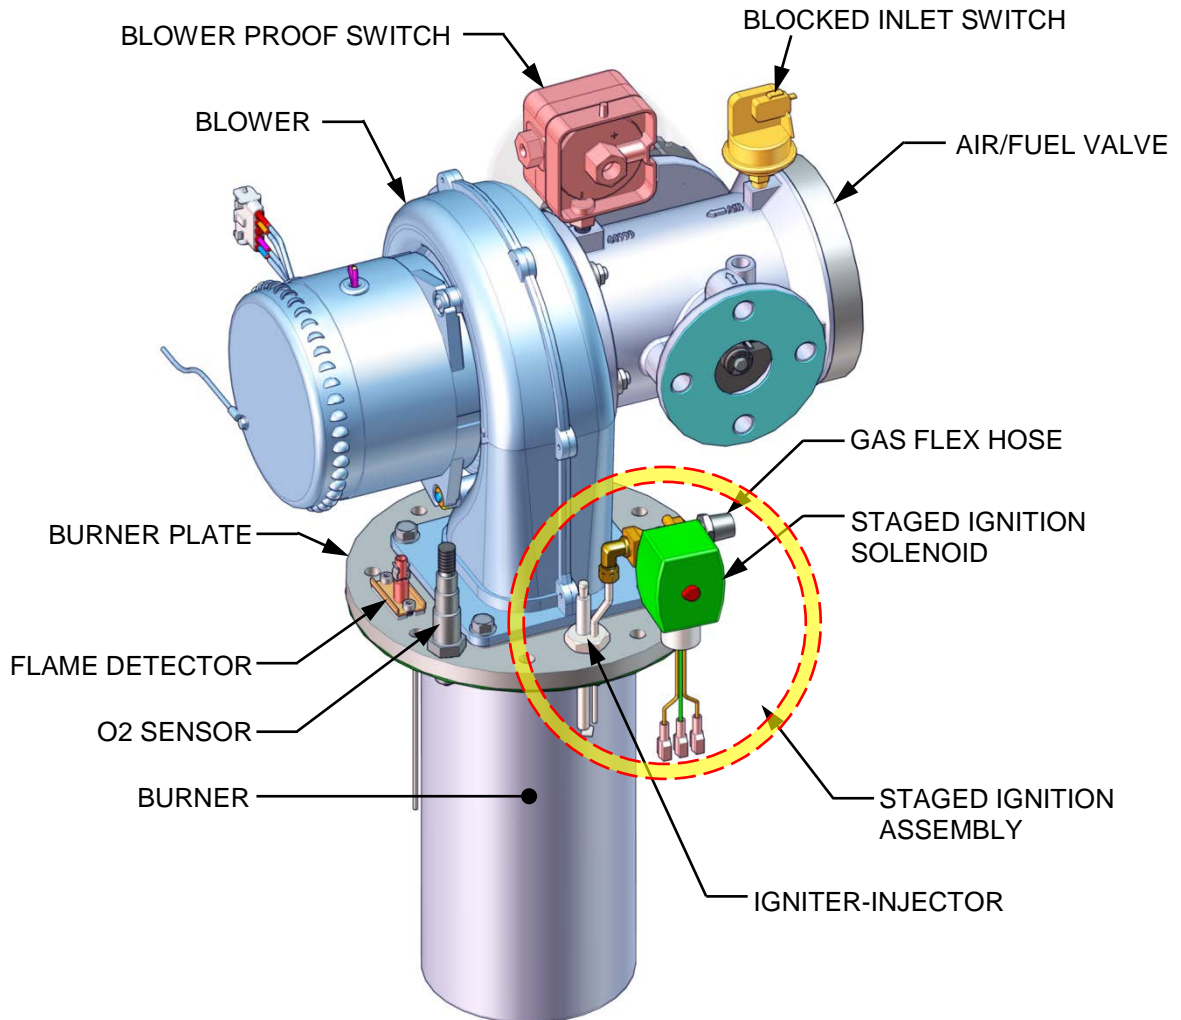
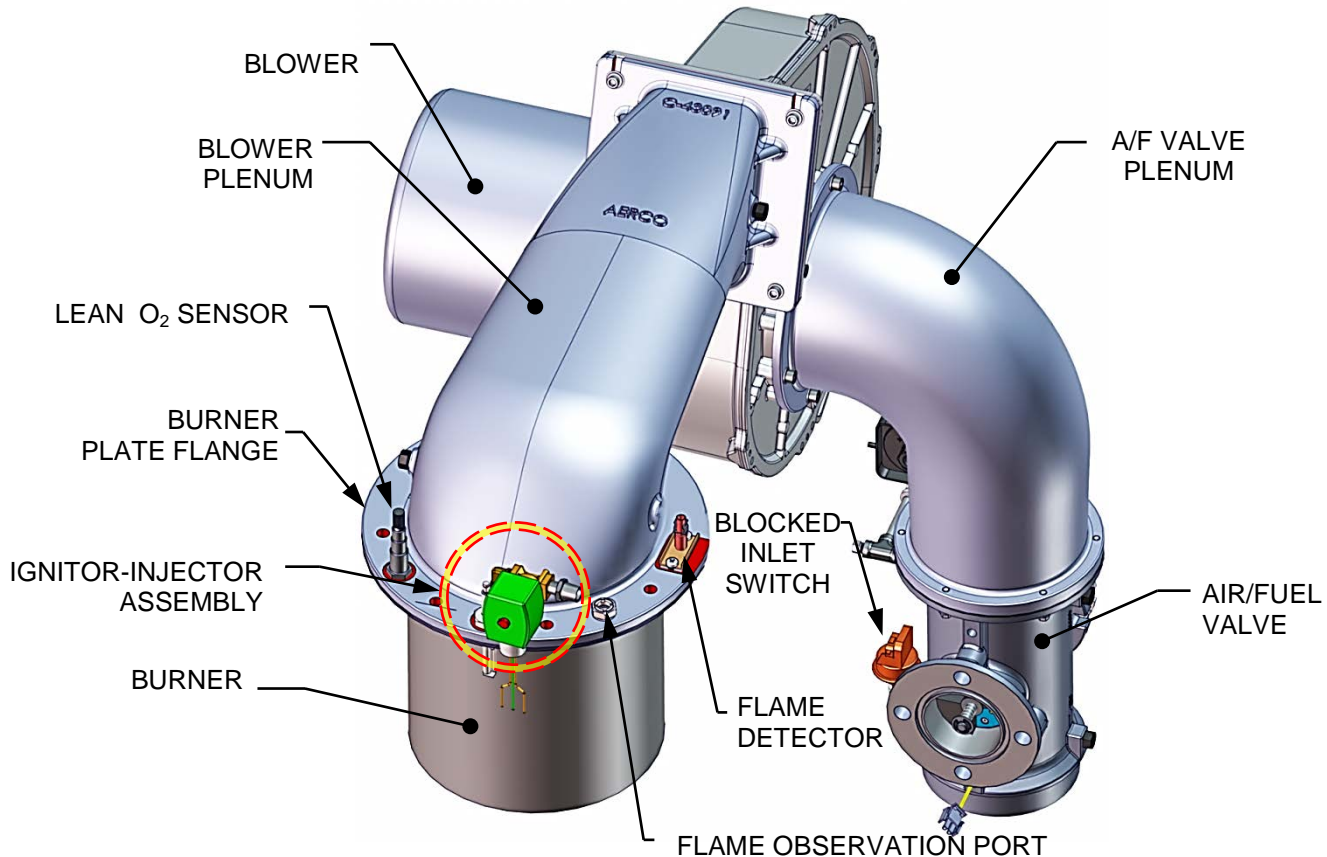
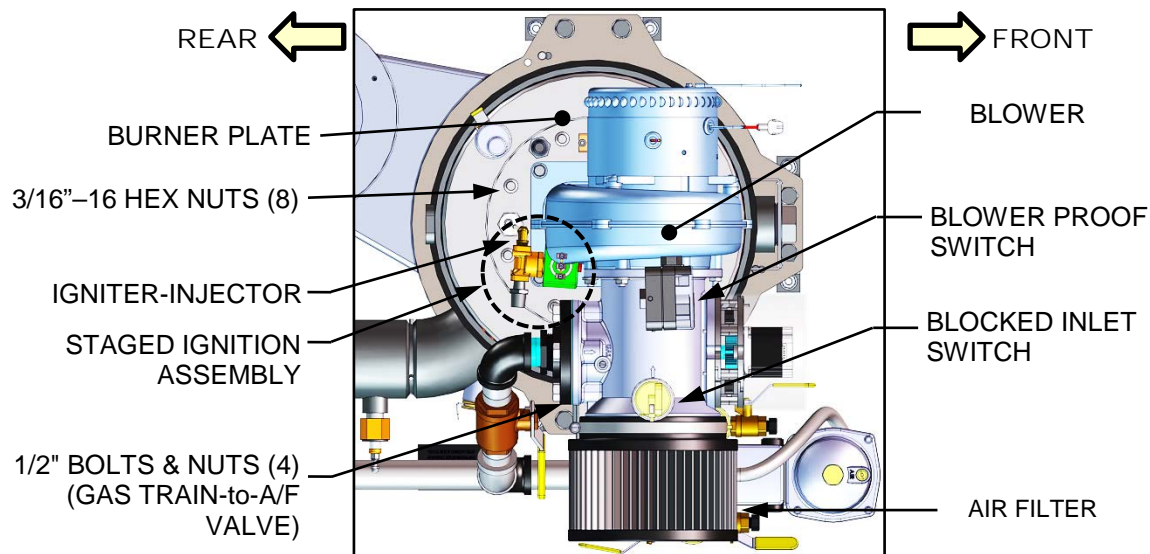
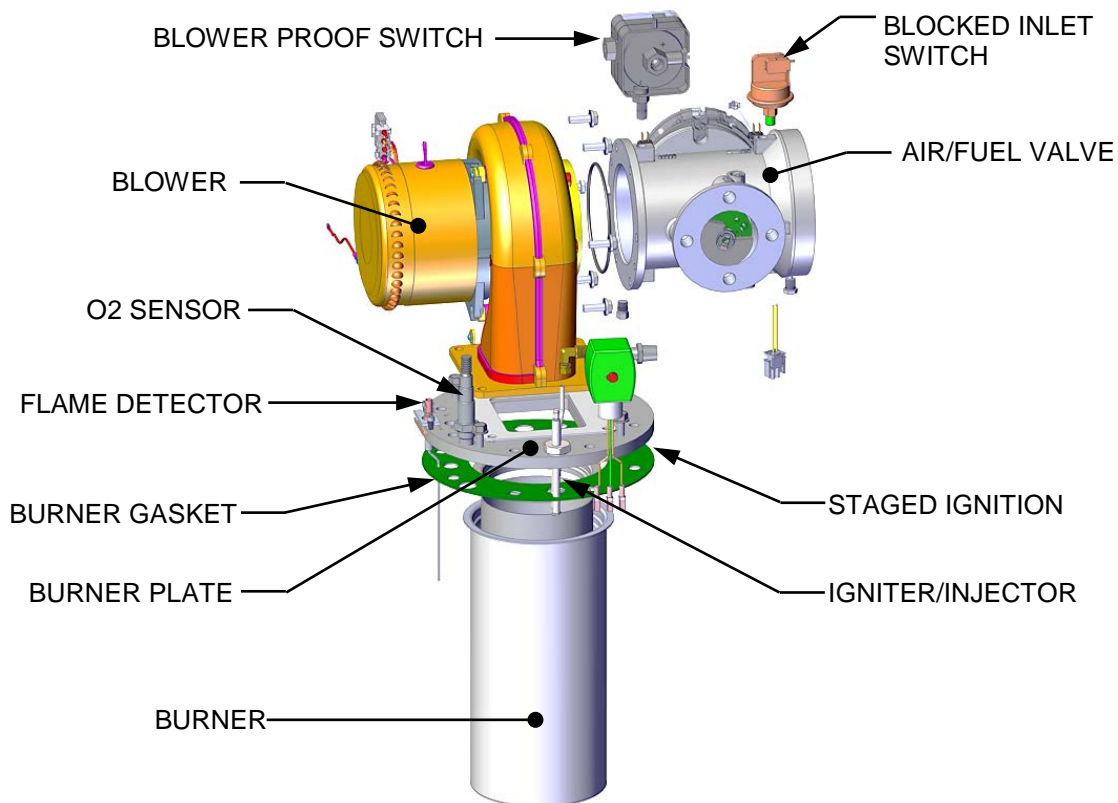

Figure 5-1a: BMK 750/1000 Burner Assembly (Removed from Boiler)
Figure 5-1c: BMK 2500/3000 Burner Assembly (Removed from Boiler)
Figure 5-4a: BMK 750/1000 Burner Assembly Mounting Details (Overhead View)
Figure 5-4b: BMK 750/1000 Burner Assembly (Exploded View)
The igniter-injector (Kit P/N **58023**) is located on the burner plate at the top of the boiler. In addition to providing the ignition spark required to light the burner, the igniter-injector also contains a gas injector tube which connects to the staged ignition assembly. Figure 5-1a through Figure 5-1c shows the complete burner assembly removed from the boiler and indicates the location of the igniter-injector flame detector and other related components.
2. Remove the top shroud from the unit by grasping the top handle and lifting straight up. This will disengage the shroud from the four (4) pins in the side panels.
3. Disconnect the cable from the igniter-injector (see Figure 5-1a – Figure 5.1c, above).
The flame detector (kit P/N **24356-1**) is located on the burner plate at the top of the unit (see Figures 5-1a through 5-1c and 5-2a through 5-2c). The flame detector may be hot. Allow the unit to cool sufficiently before removing the flame detector. Inspect or replace the flame detector as follows:
The Lean Oxygen Sensor (P/N **61026**) is located on the burner plate at the top of the unit (see Figures 5-1a through 5-1c and 5-2a through 5-2c). The sensor may be hot. Allow the unit to cool sufficiently before removing or replacing the O₂ sensor.
3. Disconnect the lead wire from the flame detector installed on the burner plate. See Figure 5-4b.
4. Remove the two (2) screws securing the flame detector to the plate. The flame detector is secured to the burner plate with one (1) #10-32 screw and one (1) #8-32 screw.
7. Using a 7/16" open-end wrench, disconnect the compression nut securing the gas injector tube of the igniter-injector to the elbow of the staged ignition assembly (see Figure 5-1a). Disconnect the staged ignition assembly from the igniter-injector.
10. Disconnect the wire leads connected to the Blower Proof switch and Blocked Inlet switch (Figure 5-4a and Figure 5-4b).
11. Disconnect the gas train from the air/fuel valve by removing the four (4) 1/2" bolts and nuts (Figure 5-4a).
13. Remove the four 5/16-18 hex head screws securing the blower to the burner plate (Figure 5-4b).
15. Remove the eight (8) 3/8-16 nuts from the burner flange (Figure 5-4a) using a 9/16" wrench.